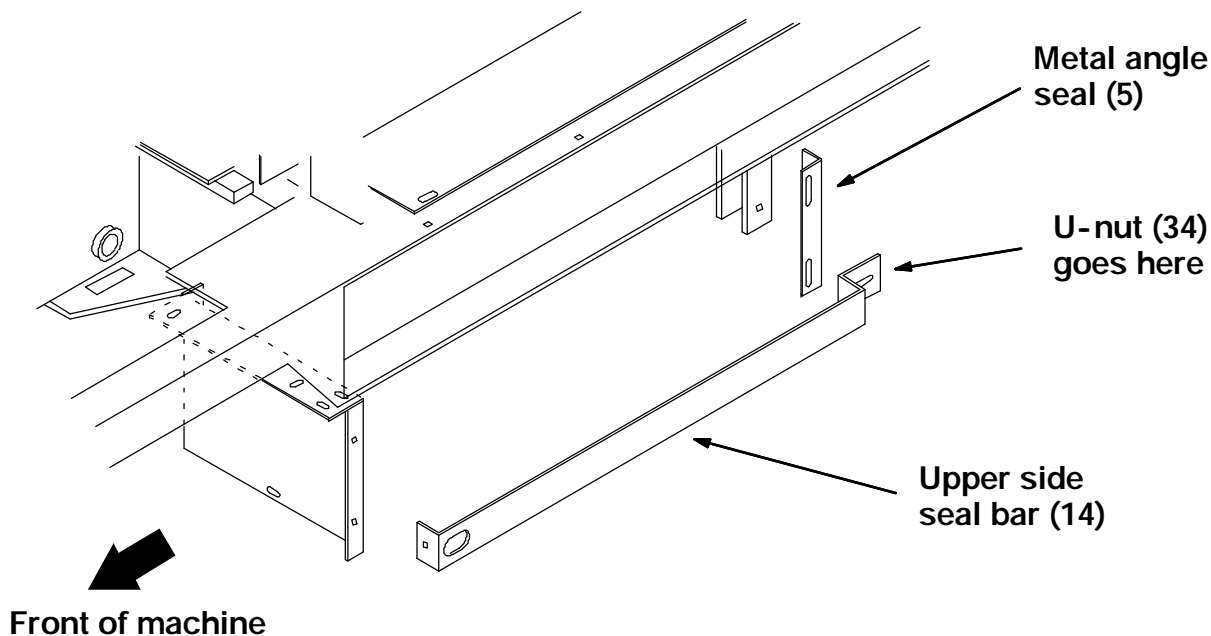

FIG. 7 - Assemble Side Brush Brackets
3. Install a U-nut (34) in the end of both upper side seal bars (14). (Refer to Fig. 7)
4. Install the upper side seal bars (14) in the machine with the end with the U-nut bolting to the machine frame and the end with the 90° bend bolting to the SBDC upper panel. (Refer to Fig. 7)
5. Install the two metal angle seals (5) on each side of the machine frame. (Refer to Fig. 7)
6. Install two brush shroud support brackets (15) on the RH side of the machine. (Refer to Fig. 7)